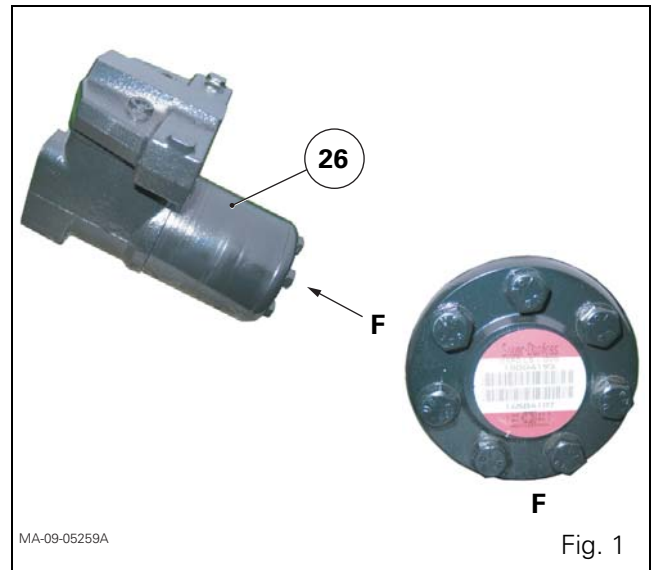

Fig. 1
The orbitrol steering unit (26) type is displayed on an adhesive plate located below the steering unit (Fig. 1). The steering unit has no mechanical links, other than the steering column itself, between the steering wheel and steering ram.